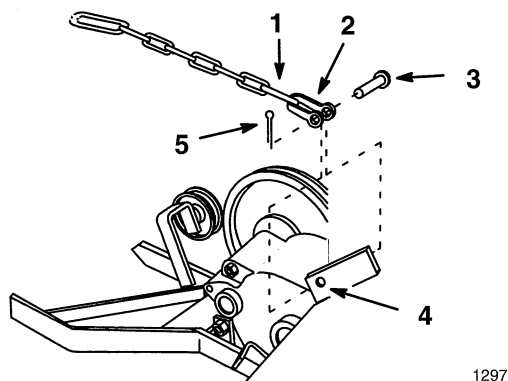

Figure 3
5. Attach lift chain, short link end, to lift bracket with clevis, clevis pin and secure with cotter pin (Fig. 3).